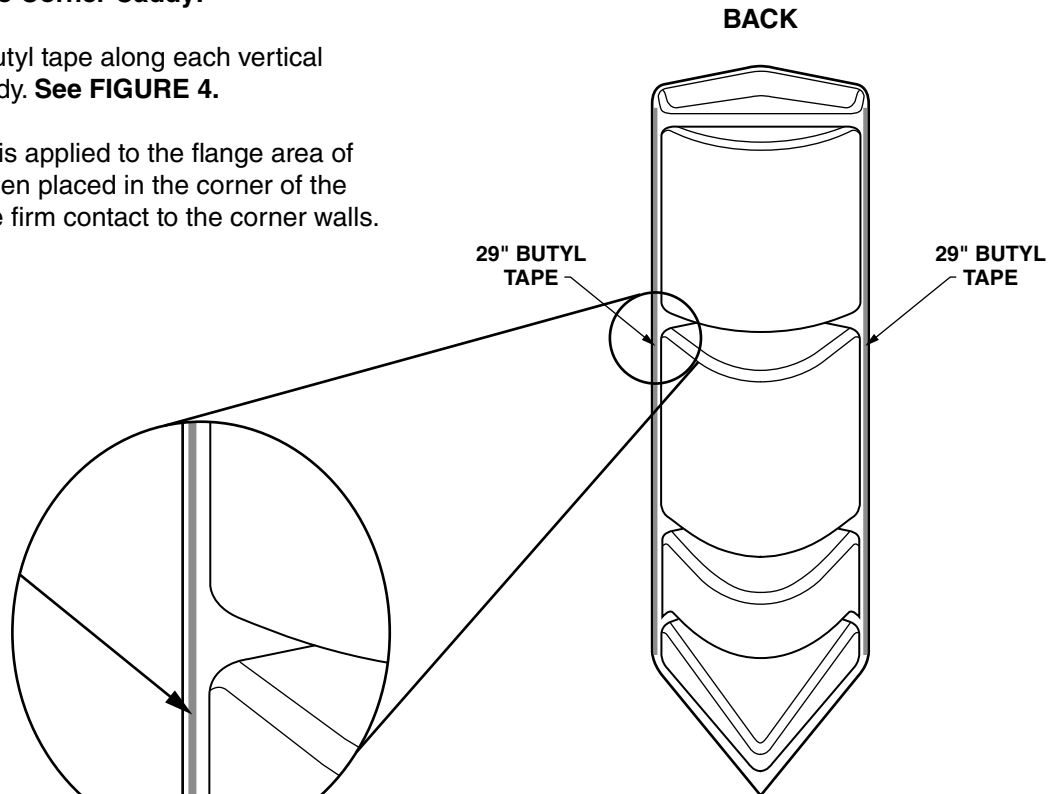

FIGURE 4
Apply (2) - 3/8" x 29" butyl tape along each vertical edge of the corner caddy. **See FIGURE 4.**